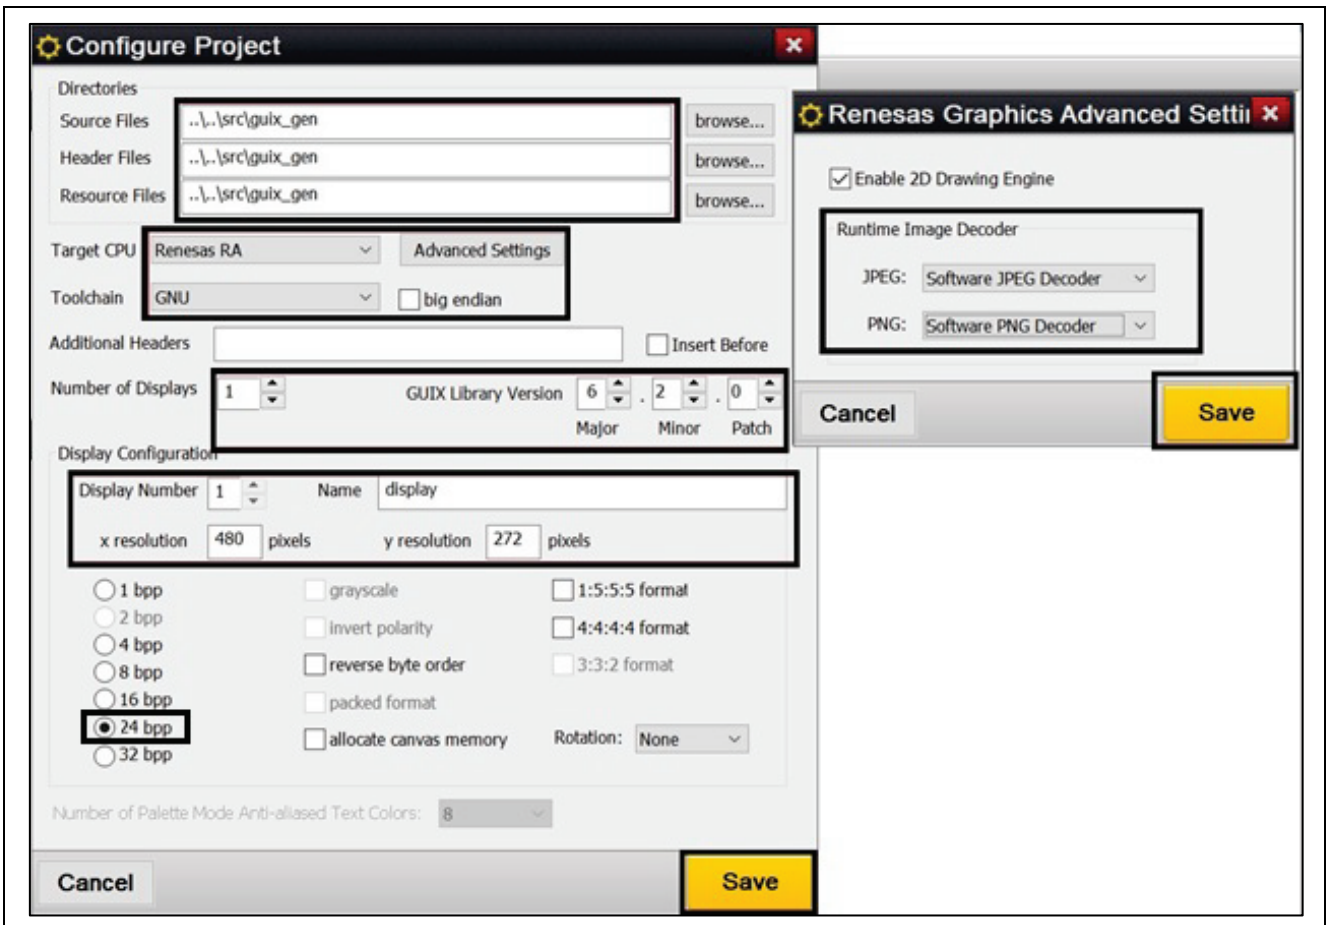

Figure 40. Configuration New Project “Hello World” with Advanced Settings
3. A new **Configure Project** window will pop up and user needs to set all the options as shown in **Figure 40**. included Advanced Settings. Finally, click **Save**.